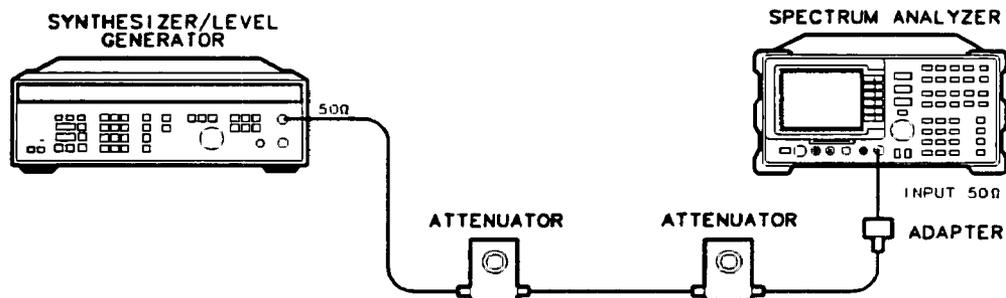

Figure 4-9. Input Attenuator Accuracy Test Setup
1. Connect the equipment as shown in Figure 4-9. Set the HP 355D to 20 dB attenuation and the HP 355C to 0 dB attenuation.